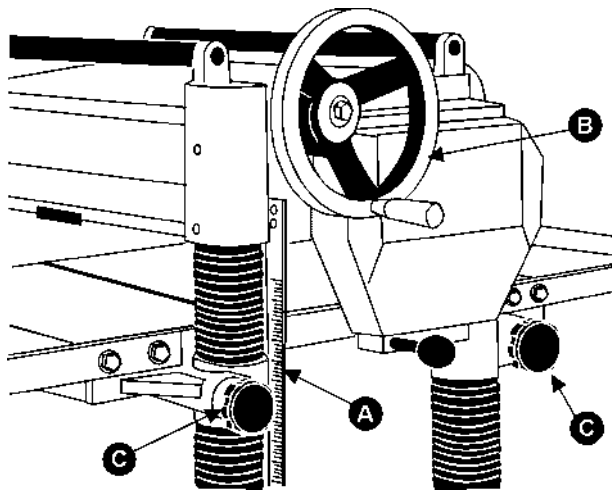

FIGURE 13
The cutting depth scale is a combination inch/metric scale (A), Figure 13, with a cutting range from 0 to 8" (204mm). The distance of upward or downward movement is controlled by the handwheel (B). One revolution is .059" (1.5mm). Before